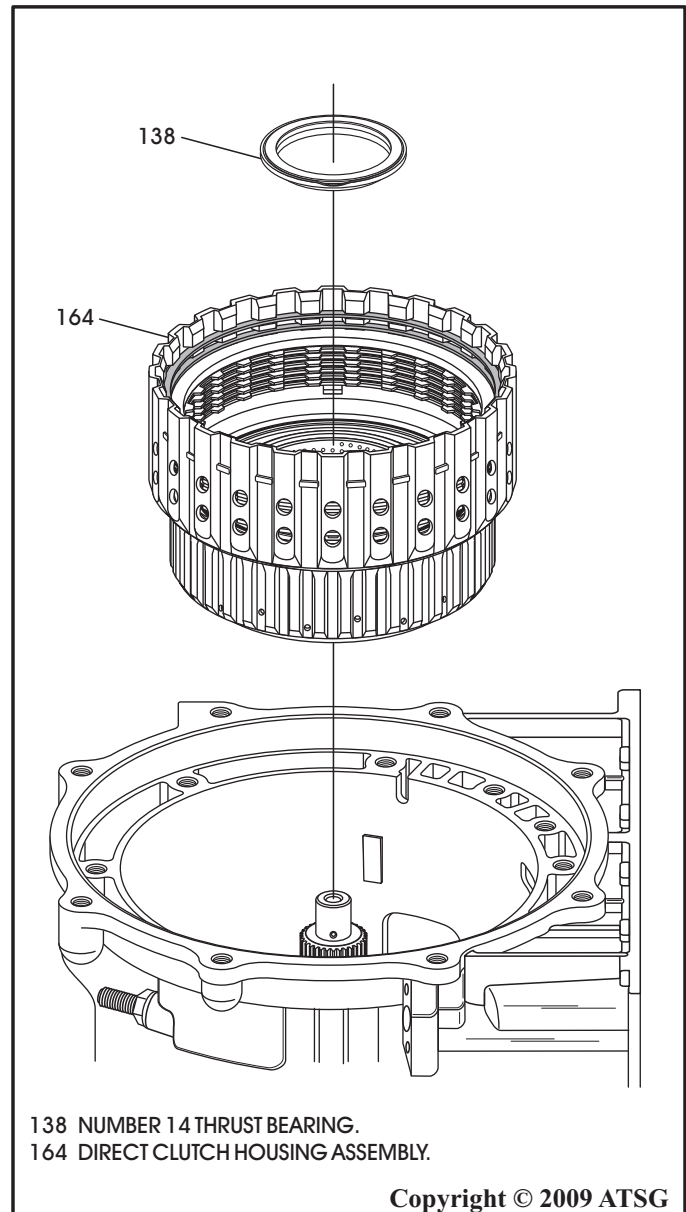

Figure 51
37. Remove the direct clutch housing assembly, as shown in Figure 51.